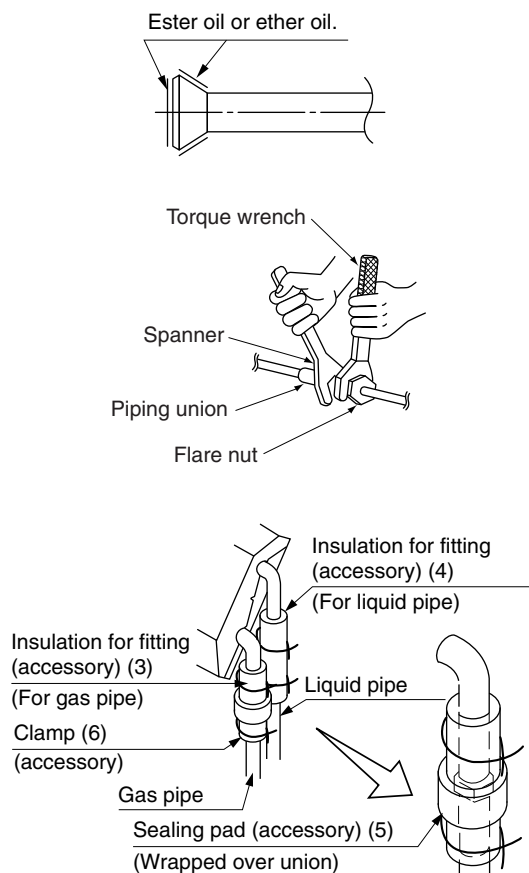

Fig. 1
- Make absolutely sure to execute heat insulation works on the pipe-connecting section after checking gas leakage by thoroughly studying the following figure and using the attached heat insulating materials for fitting (3) and (4). (Fasten both ends with the clamps (6) (accessory).) (Refer to Fig. 1)